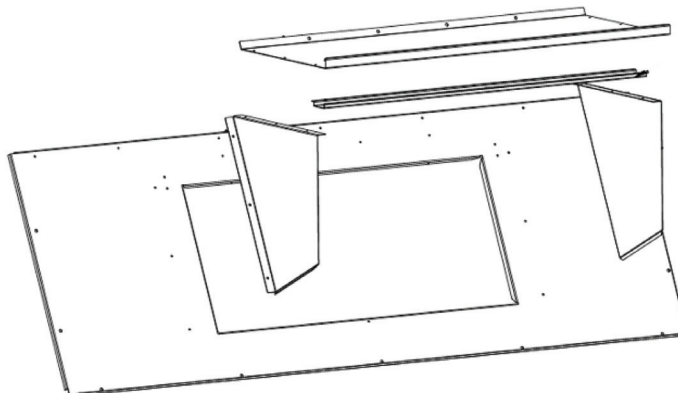
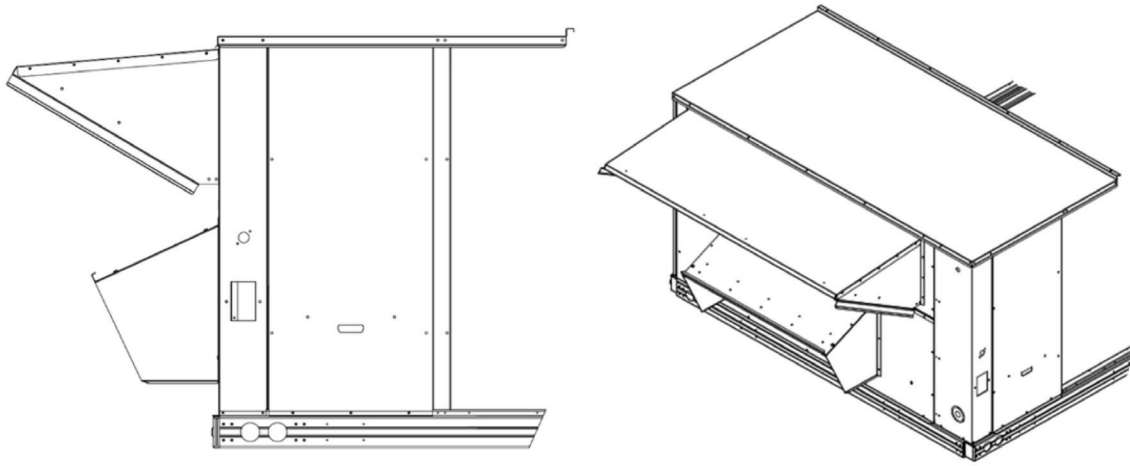

Fig. 33 — Barometric Hood Exploded View
Fig. 34 — Installed Barometric Hood Side View and Isometric View
3. Install parts as shown in the following exploded view (see Fig. 33) using the seal strip and screws provided in the parts box. Figure 34 illustrates the installed barometric hood parts.